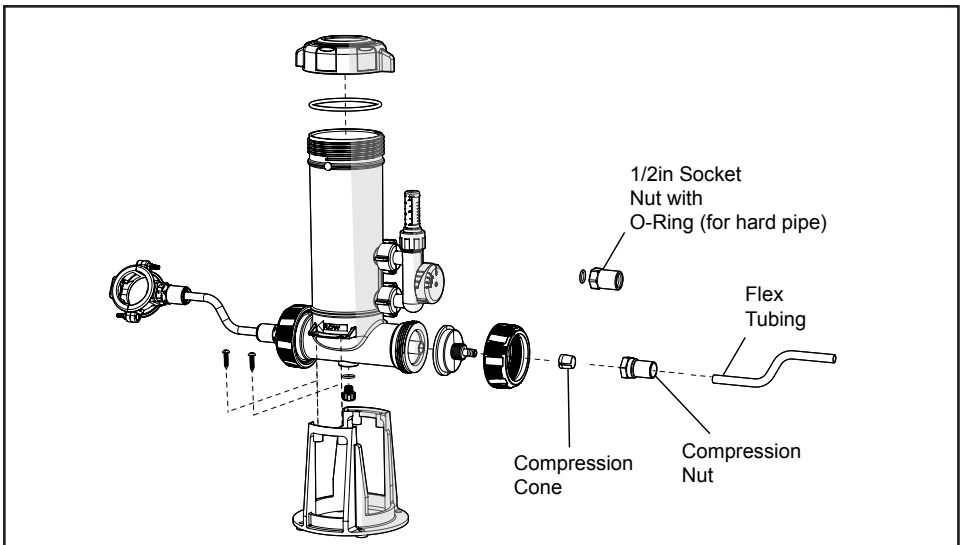

Figure 6. Connecting Hardware to Feeder
- Attach the inlet and outlet line to the feeder by installing the compression nut and cone over tubing. Push tubing onto the tapered end of the inlet. Tighten the nut firmly by hand (Figure 6).